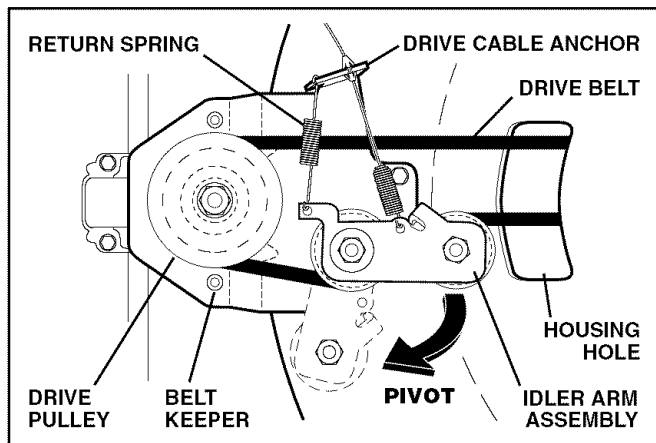

FIG. 18
3. Remove drive cable from anchor, then detach it and return spring from idler arm assembly (See Fig. 18).
9. Install new drive belt into idler arm assembly, then around the drive pulley. Be sure belt is inside of belt keepers (See Fig. 18).